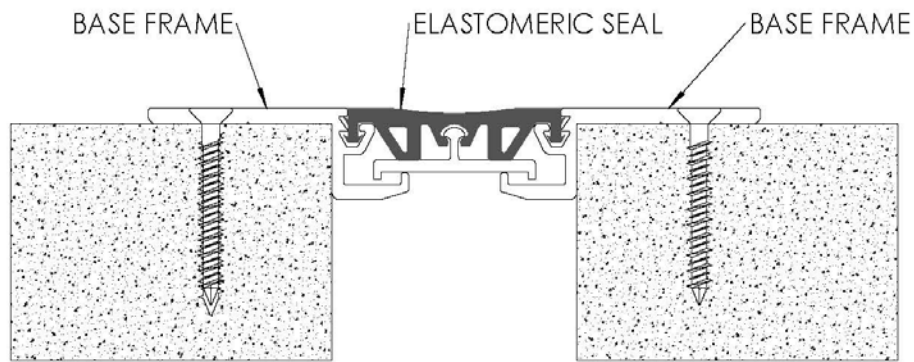

FIGURE 3
3. Position the elastomeric seal into position and push the seal bulbs into the base frame top channels as shown. Make sure the bulbs are seated all the way into the channel. Also, make sure the bottom center channel in the seal is pushed over the protrusion on the slide plate (not required on 1” joint sizes). **See Figure 3**